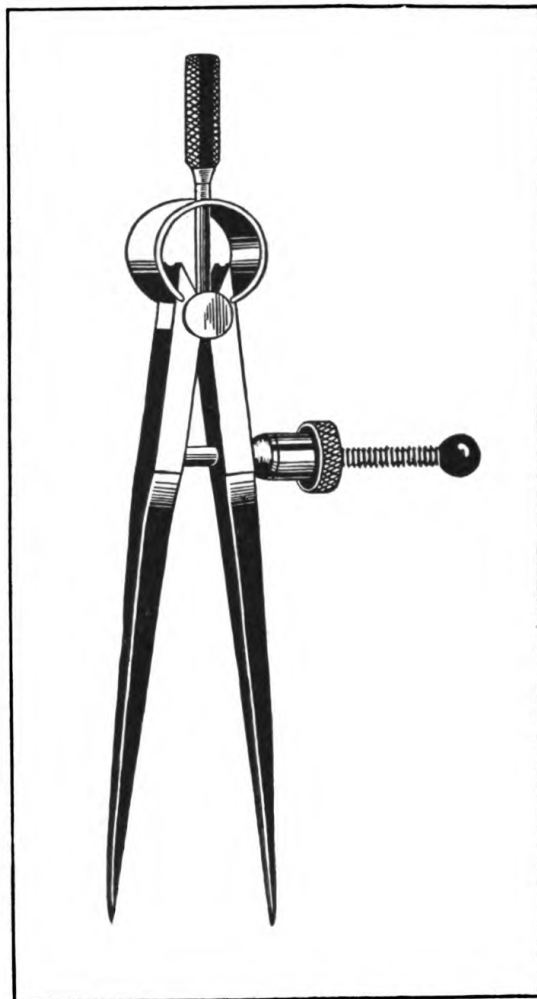

FIGURE 91.—Dividers.
e. Dividers.—Dividers are tools for measuring distances between points, for transferring distances directly from a rule, or for scribing circles or parts of circles. Figure 91 shows a pair of dividers of a type commonly used. They are convenient for dividing spaces into equal parts or determining the dimensions of irregularly shaped work. Keep the points of dividers sharp, and use only enough pressure on them to make a clear scribed mark on the work.